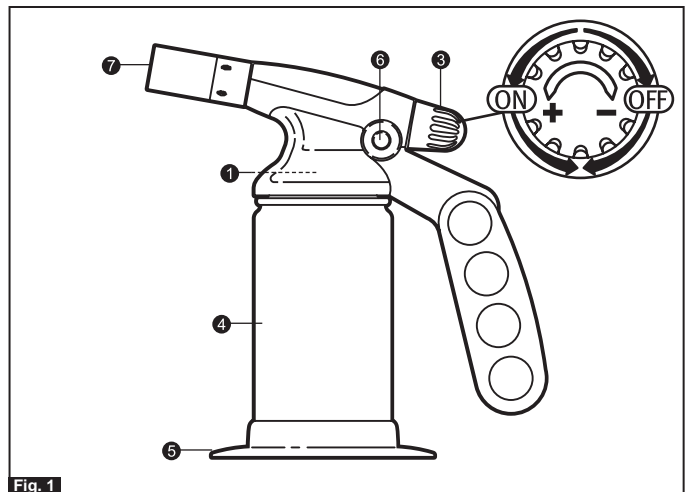

Fig. 1
- 3.6 To fit the stabilising base (5) to the gas container, push the bottom of the gas container firmly and squarely into the stabilising base until it stops (Fig.1). The stabilising base must always be fitted to the gas container before the appliance is used.
- 4.3 Adjust the size of the flame by turning the control knob (3). To increase the size of the flame, turn the control knob in the direction of the "+" arrow (anti-clockwise). To decrease the size of the flame or to turn the appliance off, turn the control knob in the direction of the "-" arrow (clockwise) (Fig.1).